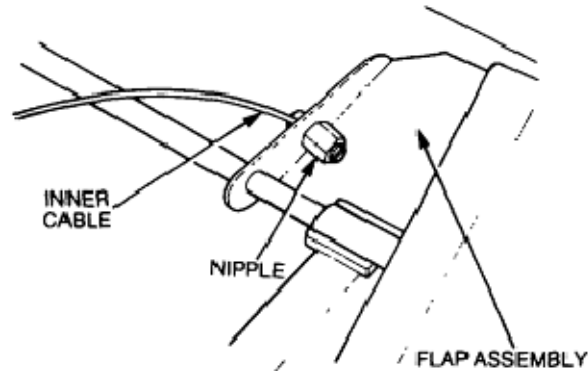

Figure 199 Air Distribution Flap Removal
- g. Remove the flap assembly from the clamp bracket (Figure 199).